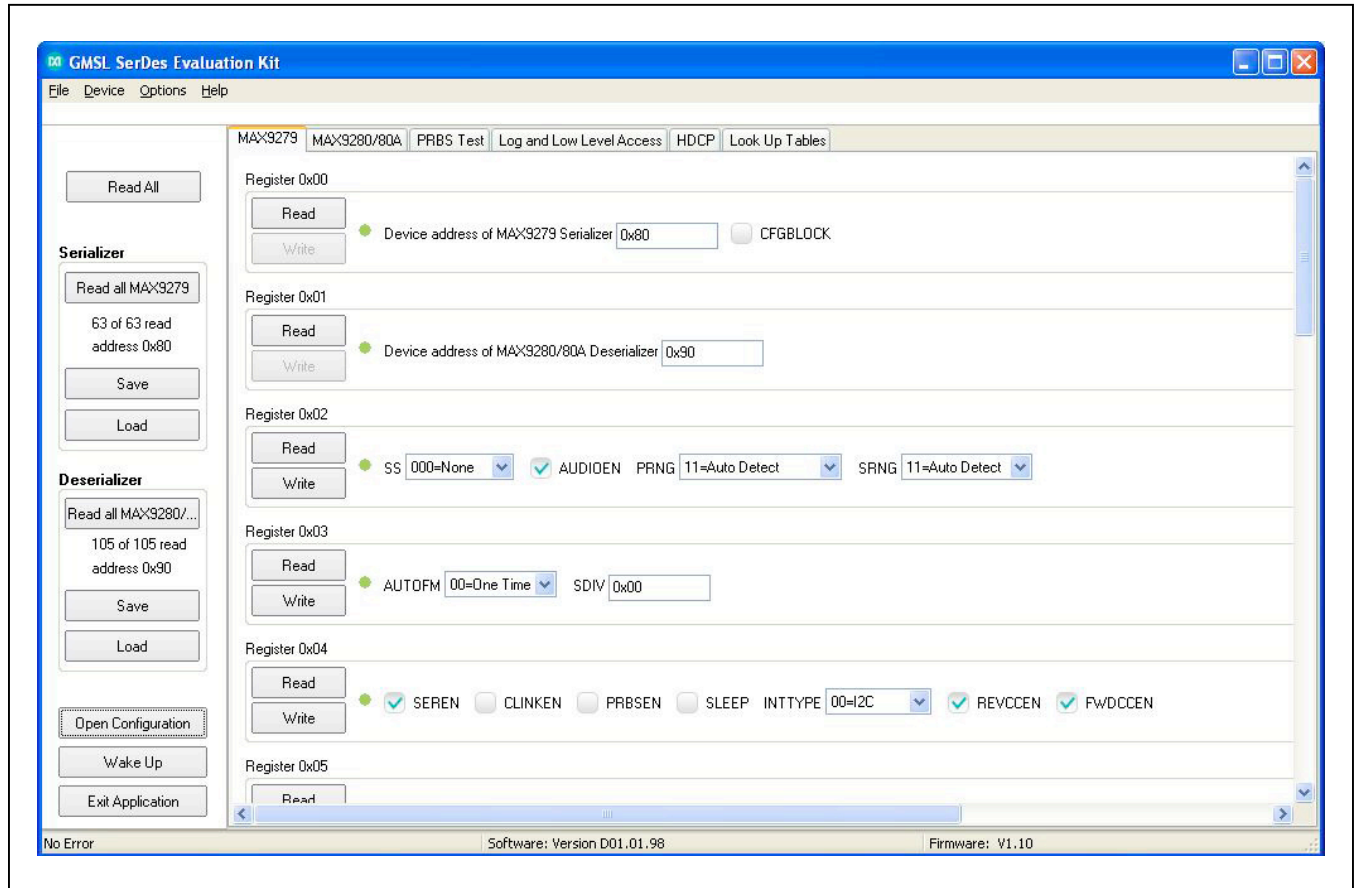

Figure 2. MAXSerDesEV-D Evaluation Kit Software (MAX9279 Tab (Serializer))
- 16) Press the **Connect** button to launch the **Evaluation Kit** window (Figure 2).
The **Evaluation Kit** window shown in Figure 2 provides access to all internal functions of the DUTs by means of reading and writing registers through different tabs to allow the user to evaluate various functions of the SerDes.
The **MAX9279** tab (Figure 2) lists the serializer's bitmaps. The **Read** and **Write** buttons in each register group box allow read/write access for each bit or group of bits that specify a function or condition, as defined in the serializer